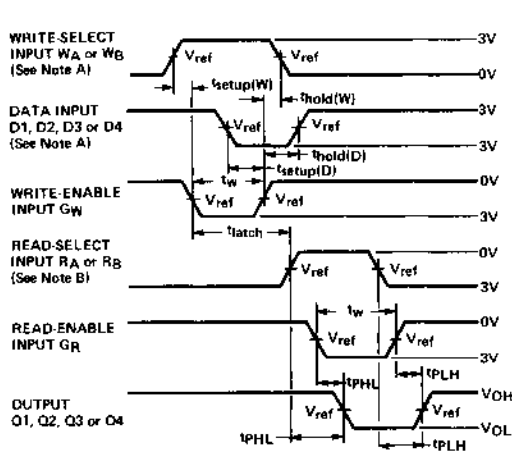

FIGURE 1
Test Conditions: $C_L = 15pF$, $R_L = 2k\Omega$ (See Fig. 1, page 3-41 and Fig. B, page 2-174)
- NOTES: A. High-level input pulses at the select and data inputs are illustrated in Figure 1; however, times associated with low-level pulses are measured from the same reference points.